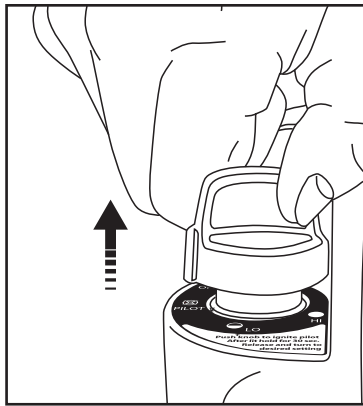

Figure 4: Release knob.
seconds and then release knob. Knob should return to fully extended position; see Figure 4. To operate heater slightly depress knob and gently turn to lock in the "HI" position to light burner tile. Leave on "HI" position until burner tile turns bright orange.
- After pilot lights, hold down pilot button for 30 -60 seconds and then release knob. Knob should return to fully extended position. (Fig 4) The pilot should remain lit. To operate heater slightly depress knob and gently turn to lock in the "HI" position to light burner tile. Leave on "HI" position until burner tile turns bright orange.
- After pilot lights, hold down for 30 -60 seconds and then release knob. Knob should return to fully extended position; see Figure 4. To operate heater slightly depress knob and gently turn to lock in the "HI" position to light burner tile. Leave on "HI" position until burner tile turns bright orange.